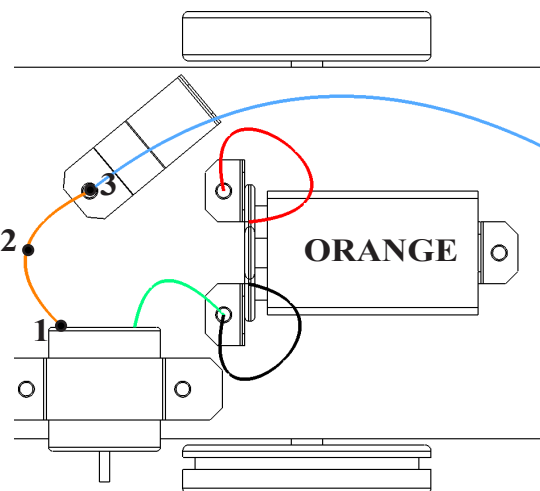

Fig. 23
Step 12. Draw a **ORANGE** spline between **front of motor** and **switch**, **Fig. 23**.